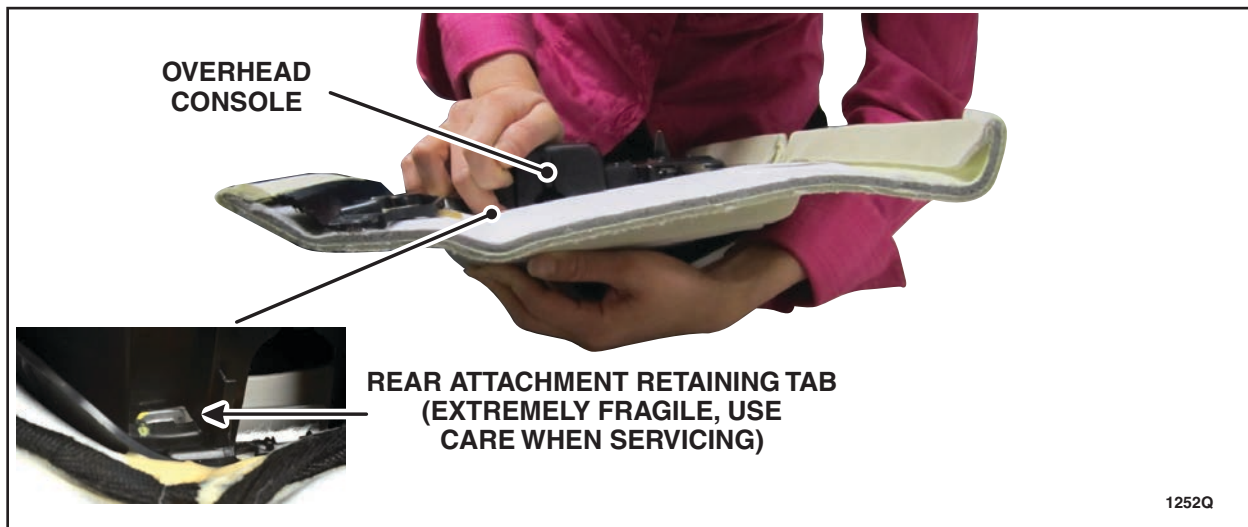

FIGURE 21a
2. **NOTICE:** Special care needs to be taken while removing the overhead console. The rear attachment retaining tabs are extremely fragile. See Figure 21a and 21b.
Remove the overhead console from the headliner. See Figure 21a and 21b (headliner cutaway view shown for clarity).